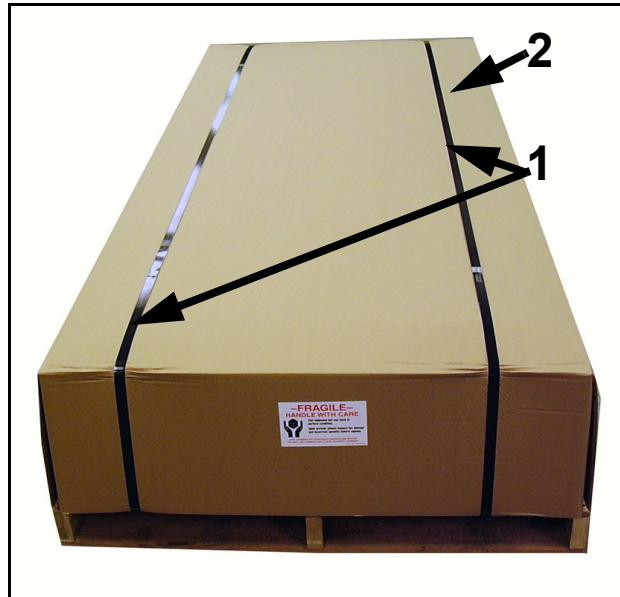

Figure 2-1. Steel Shipping Straps
- 1 Use diagonal cutters to cut the steel straps (1 in Figure 2-1). Remove the straps and the top cover (2).